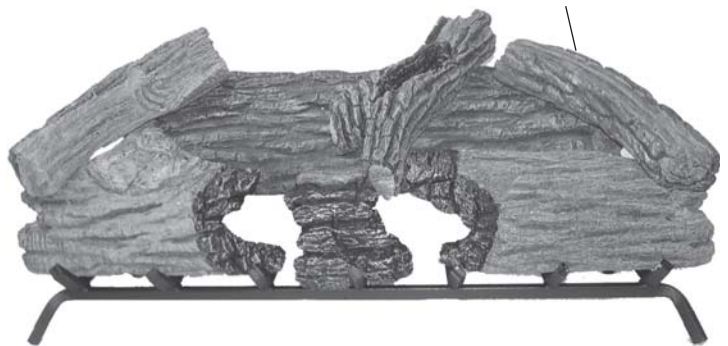

Figure 41 - Installing Right Side Log (#8)
8. Install right side log #8. See Figure 41.